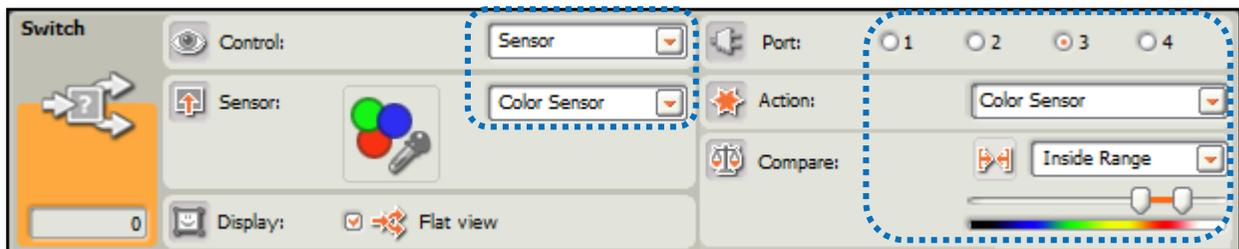

Figure 23 Second color sensor parameters
**Step 9.** Select the Switch block. Then, choose "Sensor" in Control field, choose "Color Sensor" in Sensor field, check port 3 (or the port that connect your color sensor in table 1 on page 11), choose "Color Sensor" in Action field, choose "Inside Range" in Compare field, move the slide bar to select the red color (figure 23).